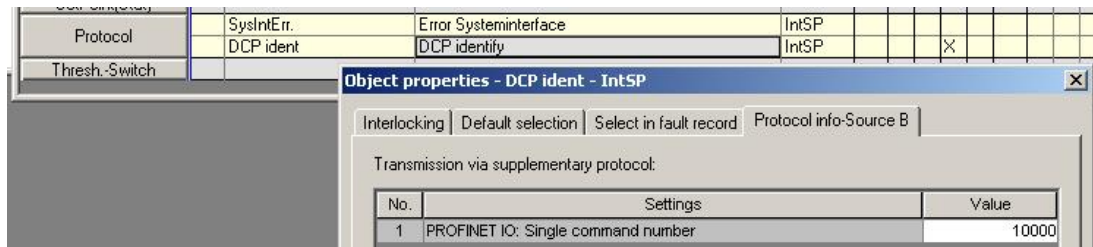

Figure 3-31 "Source system interface PROFINET IO" with Single Command Number 10000
- "source system interface PROFINET IO" with single command number 10000 (see Figure 3-31)